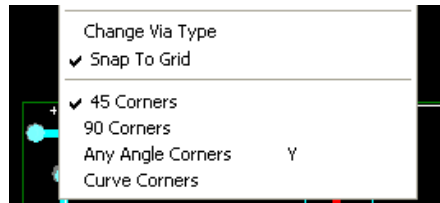

Figure 5.11: Routing with 45 degree corners
18. Right Click and make sure the option **45 Corners** is selected (*See Figure 5.11*)